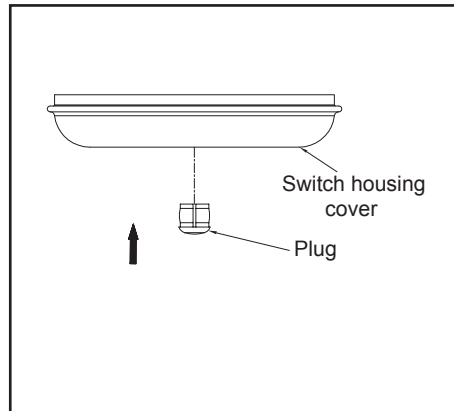

Figure 18
2. Press the plastic plug (provided) into the center hole of the switch housing (figure 18).